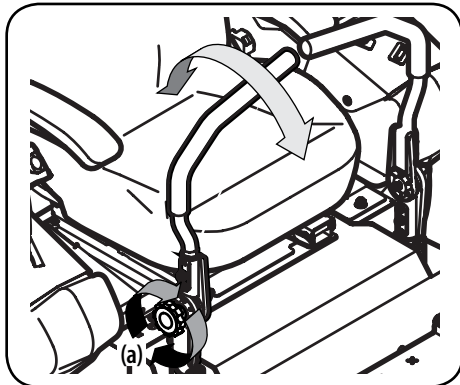

Figure 2-5
- Loosen the control lever knob (a) to unlock the drive control levers. See Figure 2-5.